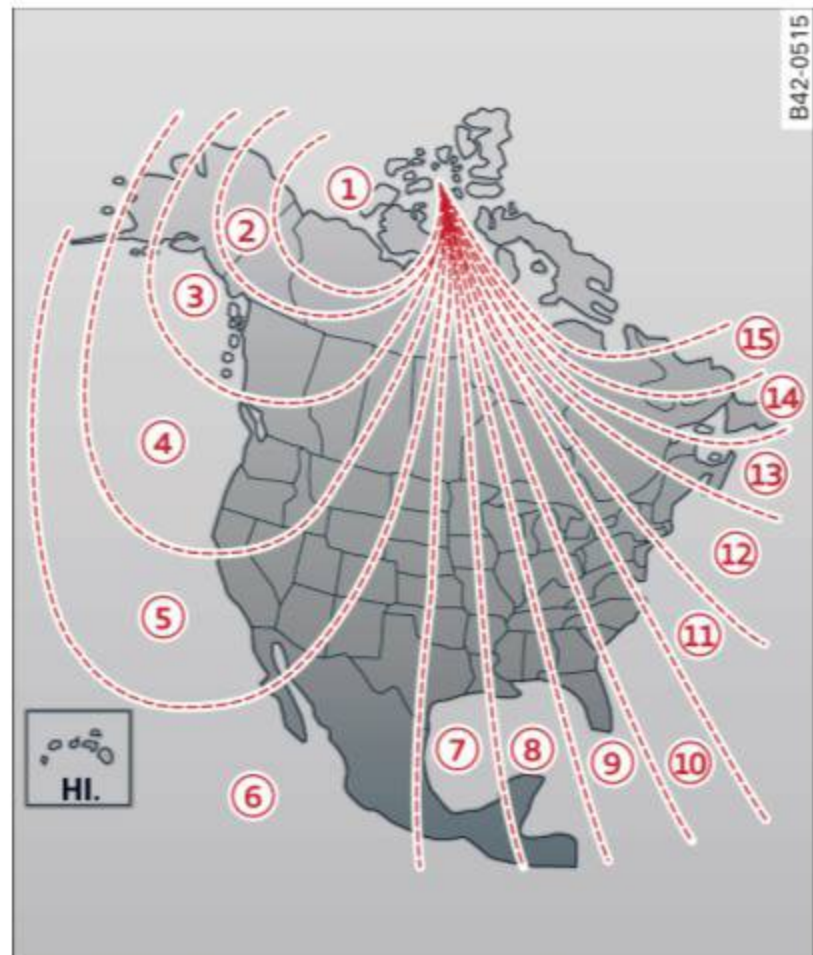

Fig. 48 North America: magnetic deflection zone boundaries
- ▶ Press and hold the button **A** ⇒ *fig. 48* until the number of the magnetic zone appears in the rearview mirror.